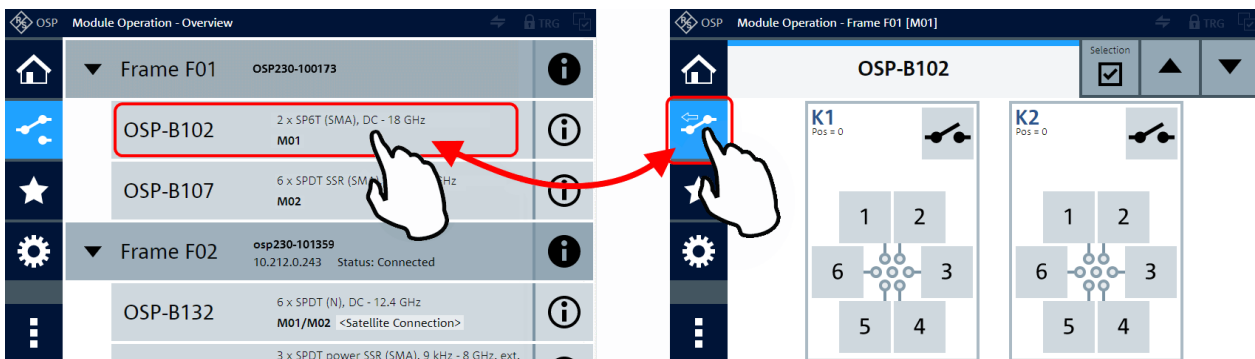

**Figure 6-10: The module operation dialog (right: in Virtual Mode, which also allows editing)**
- The list view of the "Module Operation" dialog (Figure 6-10) provides the following functions:
Starting from the "Module Operation" dialog in the **list view** as in Figure 6-10, click a module's entry to operate this module in its individual **interaction dialog** (detail view).